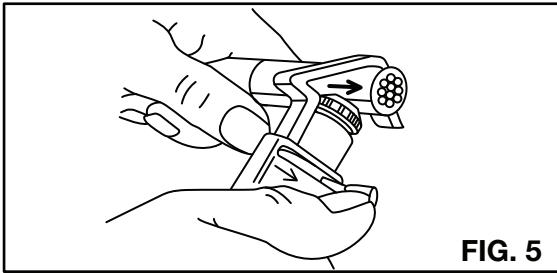
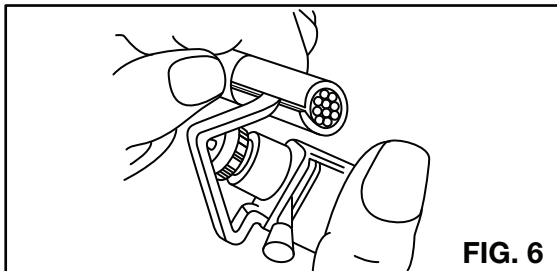

FIG. 5
FIG. 6
4. Remove insulation by rotating lever to other end of slot. Hold it in that position, see Fig. 5.
5. Pull the stripping tool longitudinally over entire length of insulation to be removed, see Fig. 5.
6. Peel away insulation by inserting the cable support bracket into the cut line which was made in figure 5 above, see Fig. 6.